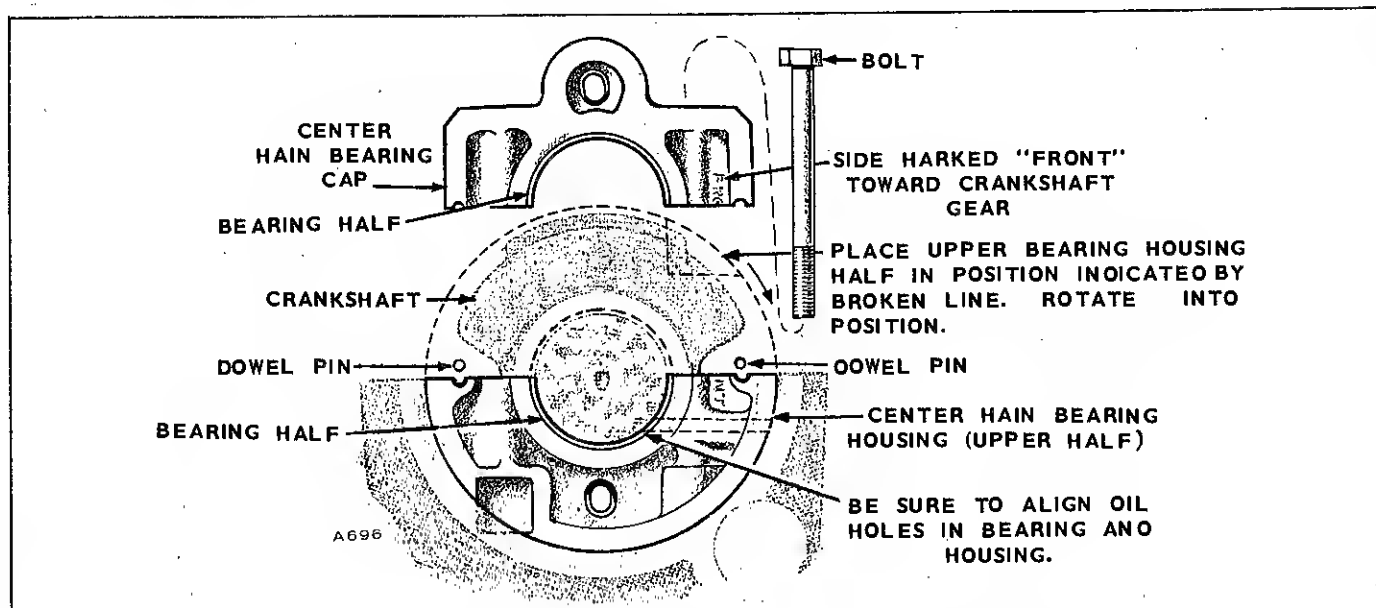

FIGURE 74. MAIN BEARING INSTALLATION
5. 4-CYLINDER ONLY. Set the upper half of the center main housing on the crankshaft and rotate it into place. Be sure the side marked **FRONT** is toward the crankshaft gear. Set the 2 positioning dowels on the upper bearing mount. Install the center main bearing cap and torque bolts to 97 - 102 lb. ft. (Fig. 74).